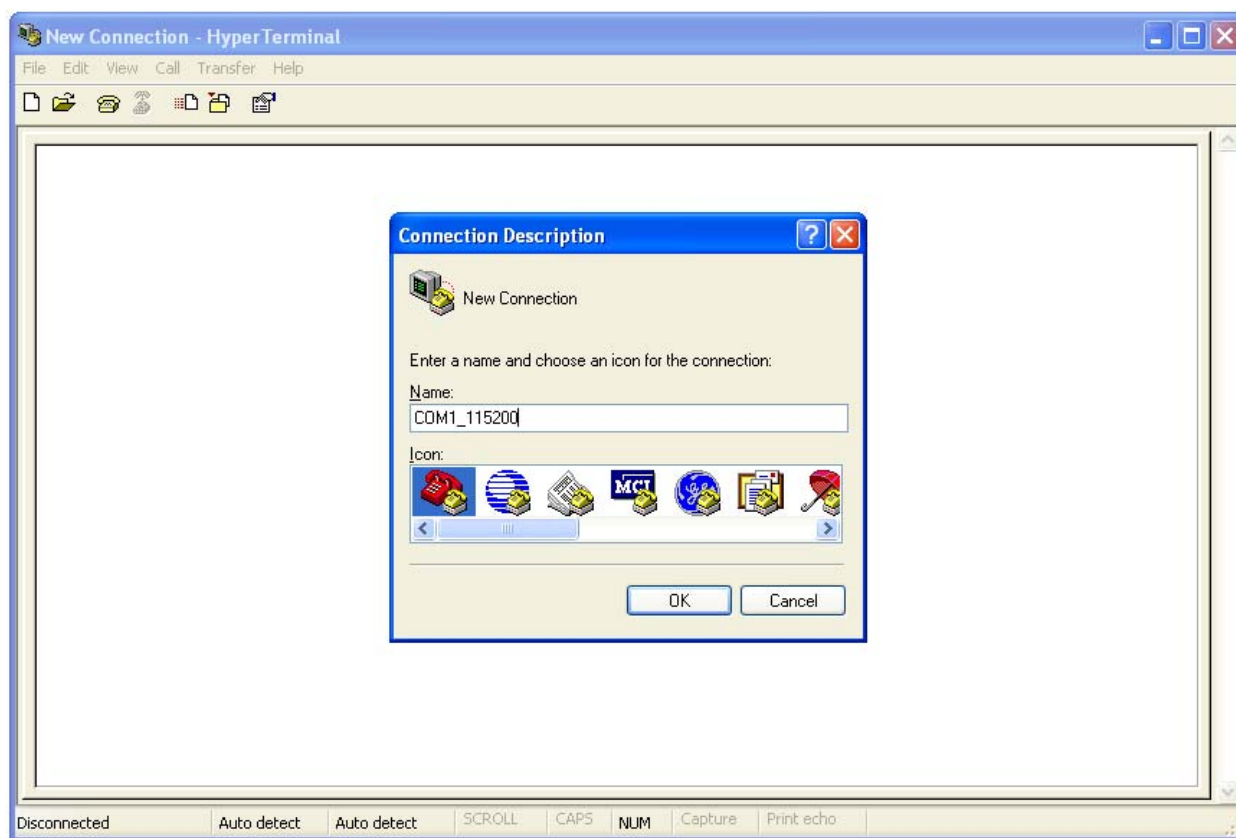

Figure A-10. HyperTerminal GUI
2. The HyperTerminal opens as shown in Figure A-10. Enter the name of connection and click on the **OK** button.